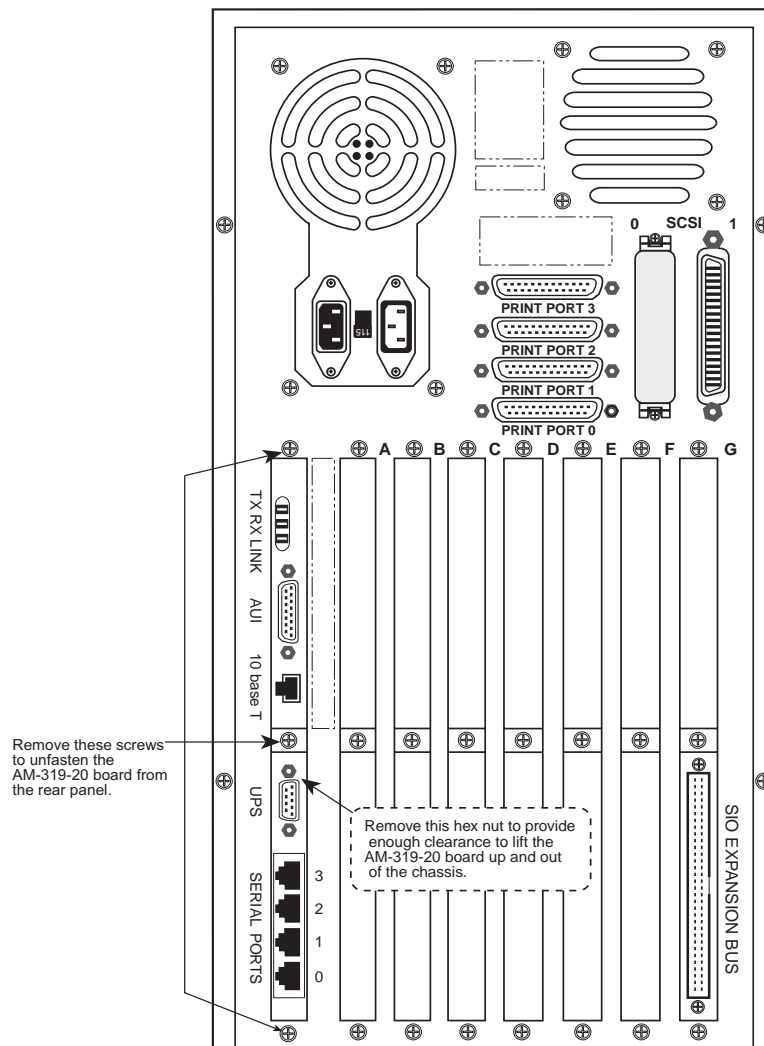

Figure 12: Deskside Chassis Rear Panel Screw Locations
1. Remove the three Phillips head screws where indicated in Figure 12. The three screws hold the AM-319-20 I/O mounting bracket to the chassis rear panel.
2. Remove the threaded hex nut, as shown in Figure 12, to provide enough clearance to lift the AM-319-20 board up and out of the chassis bottom pan.